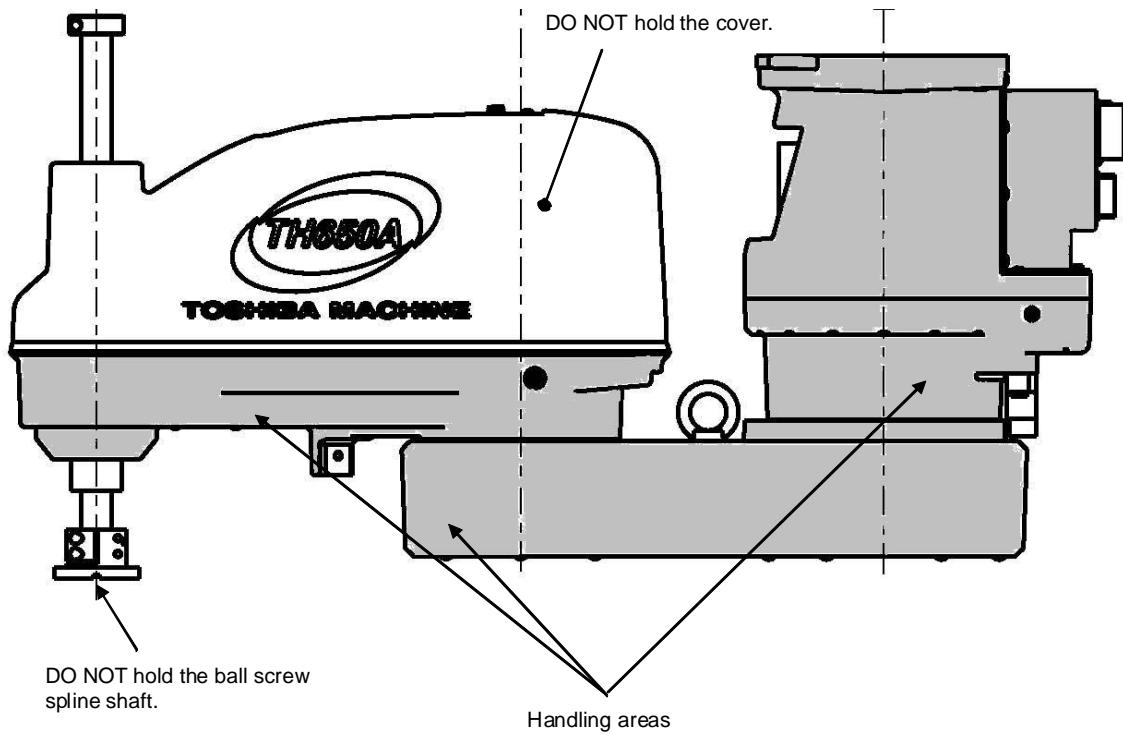

Fig. 2.4 Robot handling areas
- When lifting up the robot by workers, hold the specified locations by hand, as shown in Fig. 2.4. If the arm 2, cover, or ball screw spline shaft is held by hand, an unusually large force is exerted, resulting in a malfunction.
- The work should be performed by two (2) or more workers.